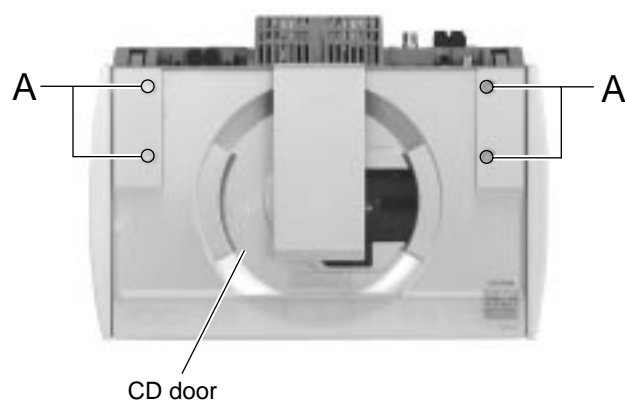

Fig.1
■ Removing the CD door (See Fig.1)